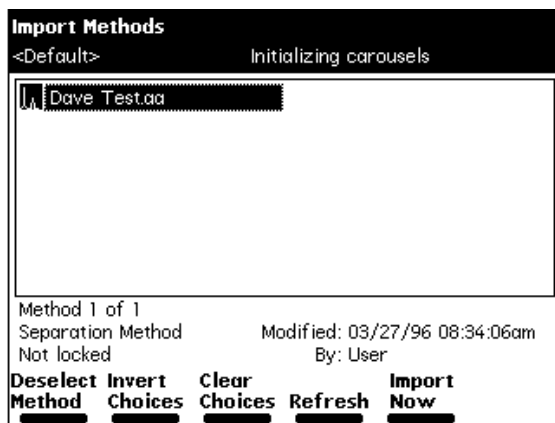

Figure 4-6 Import Methods Screen
3. Press the **Import Methods** screen key. The Import Methods screen appears, displaying a list of methods stored on the disk (Figure 4-6). To update the list, press the **Refresh** screen key.